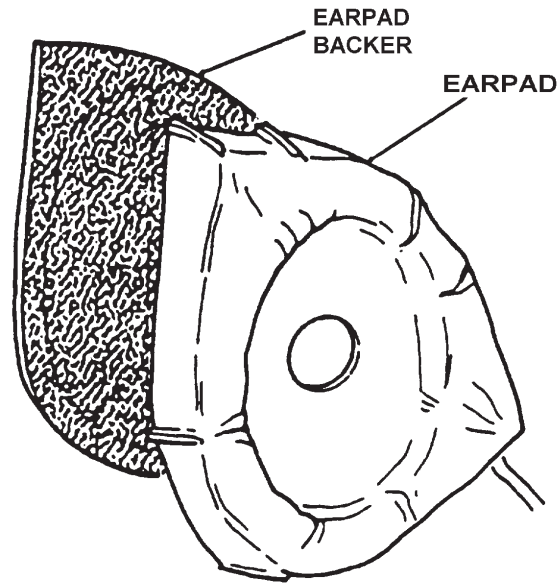

Figure 3-5. Earpad and Backer
8. Referring to Figure 3-5, position the left-hand and right-hand earcups into the earpads and cover with the earpad backers (optional).